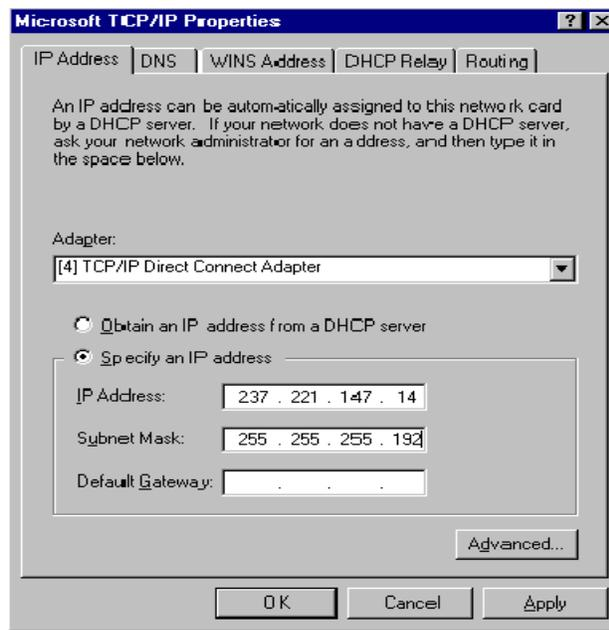

Figure 6-13. Assigning an IP Address to the ESCON Adapter
19. Enter an IP Address and Subnet Mask; defining the address that the mainframe will use to communicate with the Netfinity server (Figure 6-13). Note that the mainframe IP address and this address must be in the same network (subnet). There is no need to enter a Default Gateway since TCP/IP Direct Connect is a point-to-point connection.